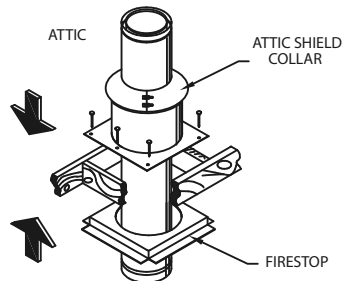

Figure 9
- d. Secure the Attic Insulation Shield to the top of the framed opening using at least two (2) 8-penny nails or two (2) #8, 1-1/2" wood screws per side (**Fig. 9**).
- e. Wrap the Collar of the Attic Insulation Shield around the chimney and fasten it loosely. Slide the Collar down to meet the Attic Insulation Shield. Tighten the bolts to secure the Collar in place (**Fig. 9**).